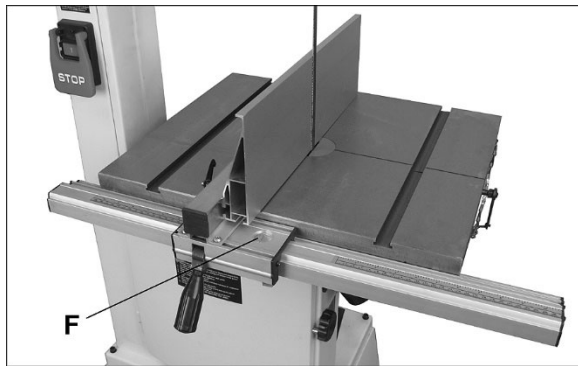

Figure 5-20
12. Move fence against blade (do not deflect blade by pushing into it). See Figure 5-20.
3. With fence against blade, verify that cursor (F, Figure 5-20) aligns with zero on scale.